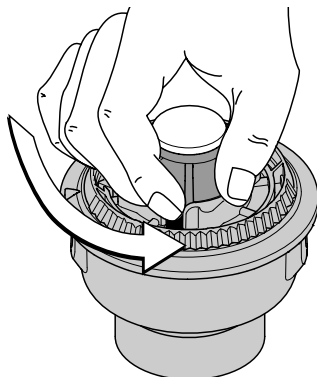

Fig. 21
1. Hold the outer spool, and unscrew the bump knob counterclockwise (Fig. 21).